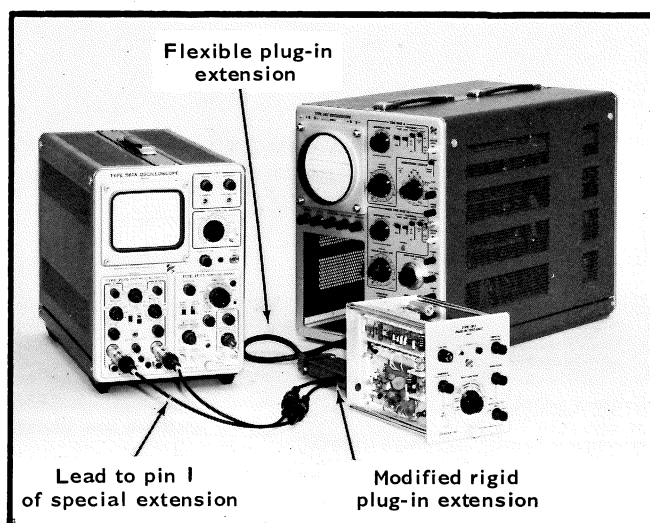

Fig. 5-12. Test equipment setup for risetime check (step 19).
b. Disconnect the 100 volt dc calibrator signal from the EXT INPUT. Connect a flexible plug-in extension to the test oscilloscope interconnecting socket. Connect the modified rigid plug-in extension between the flexible plug-in extension and the 067-0521-00. See Fig. 5-12.
e. Connect the GR pigtail from pin 3 of the modified rigid plug-in extension to Input B of the dual trace sampling amplifier in the same manner. See Fig. 5-12.